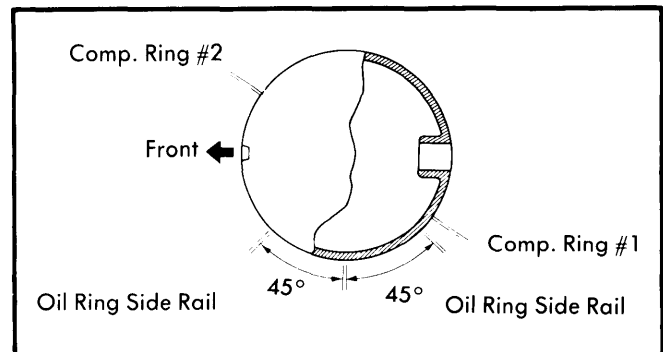

Fig. 4 Correct Piston Ring Gap Arrangement
**Installation** - Apply oil to piston and piston rings. Install compression rings so stamped code on ring faces upward. Position piston ring gaps as shown in Fig. 4. Using suitable ring compressor, install piston and rod assembly in cylinder. Make sure indent on piston faces forward.